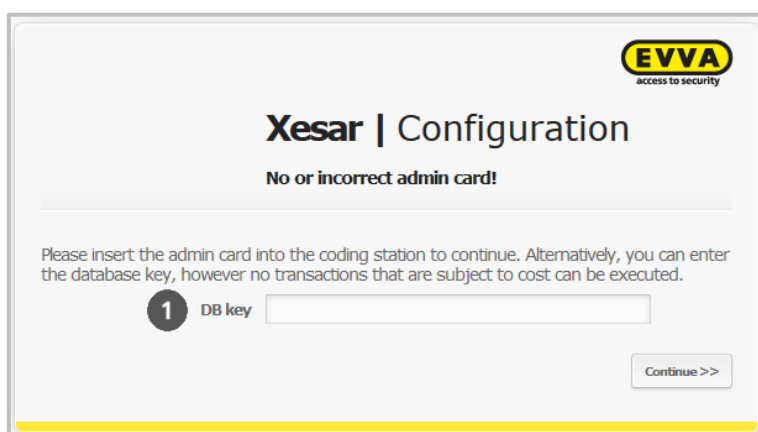

Figure 46: DB key
If you have not connected your Xesar coding station, your Admin Card is faulty or not available, the system shows the "Xesar | Configuration" (Figure 46: DB key) application window allowing you to enter the DB key to continue. Note that you will be unable to grant authorisations to persons/identification media without an Admin Card.
The DB key ❶ (Figure 46: DB key) is the automatically generated code included with your access data (see ***Backing up access data*** and DB key).